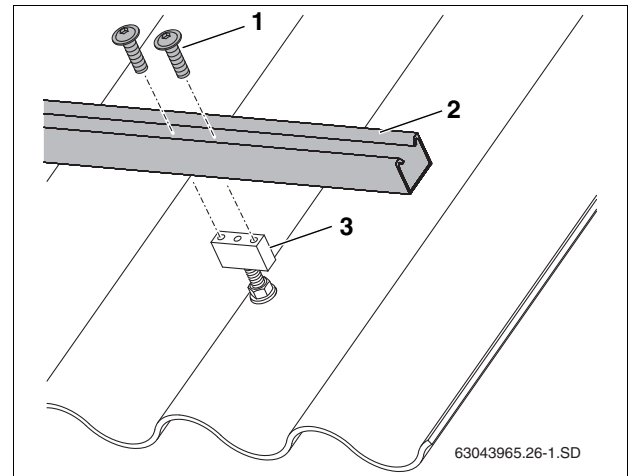

Fig. 22 Attaching the horizontal rail to the attachment blocks on the hanger bolts.
- Fasten each rail (Fig. 22, [2]) with two screws (Fig. 22, [1]).